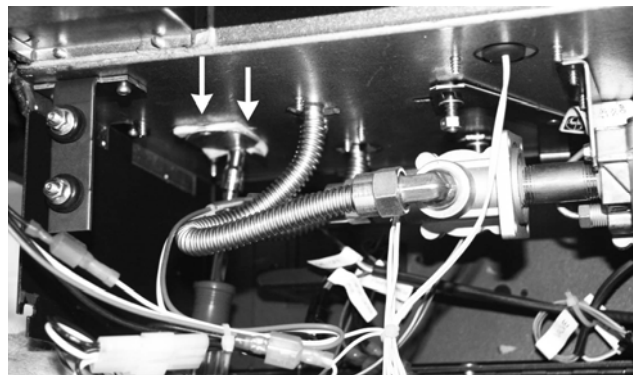

Figure 3
2. Working from the back of the stove, remove the small cover plate and gasket from bottom of the firebox toward the left side. Use a 1/4" nut driver to remove the two screws located at arrows in Figure 3. Set the screws aside for re-use. Discard the cover plate and gasket.